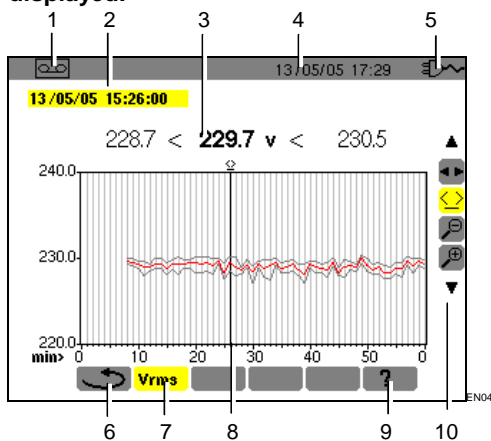

Figure 52: Example of measurement recording screen.
7.	Measurement recordings available in the form of curves (Figure 52).